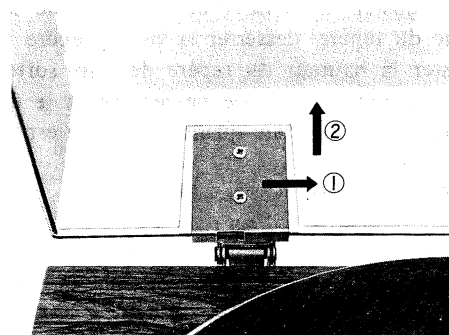

Fig. 7
Slide the cover carefully in the direction of the arrow ① as shown in Fig. 7, then pull it in the direction of the arrow ②.